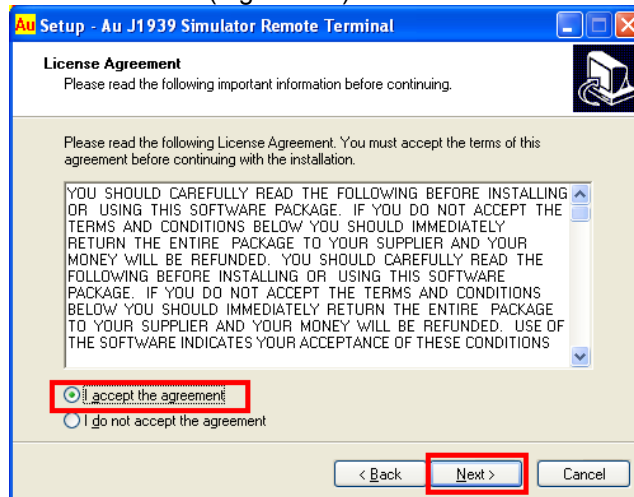

Figure A-4
4. "License Agreement" window pop up, please read the license agreement and select "I accept the agreement", click "Next" to continue (Figure A-4).